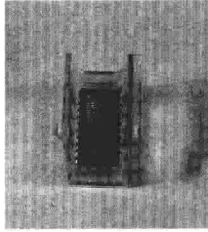

Figure 1-12. Typical early PROM
- **PROM**—programmable read only memory, Figures 1-12 and 1-13